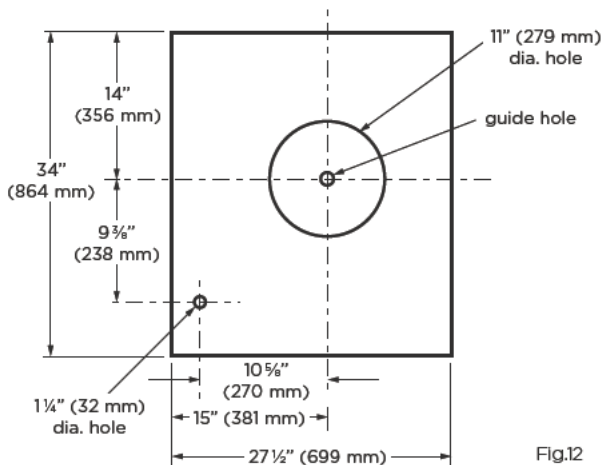

Fig.12
- Mark a 27½" x 34" (699 x 864 mm) rectangle on wall as indicated in Fig.12.
- Mark an 11" (279 mm) diameter circle around guide hole as indicated in Fig.12.
- Mark the center of the 1¼" (32 mm) diameter hole for electrical wiring as indicated in Fig.12.
- From the outside, using the guide hole as a starting point, mark the rectangular cut-out as indicated in Fig.12. Remove ONLY the roof shingles in THIS AREA.
- Use dimensions from Fig.12 to locate the 1¼" (32 mm) diameter wiring hole.